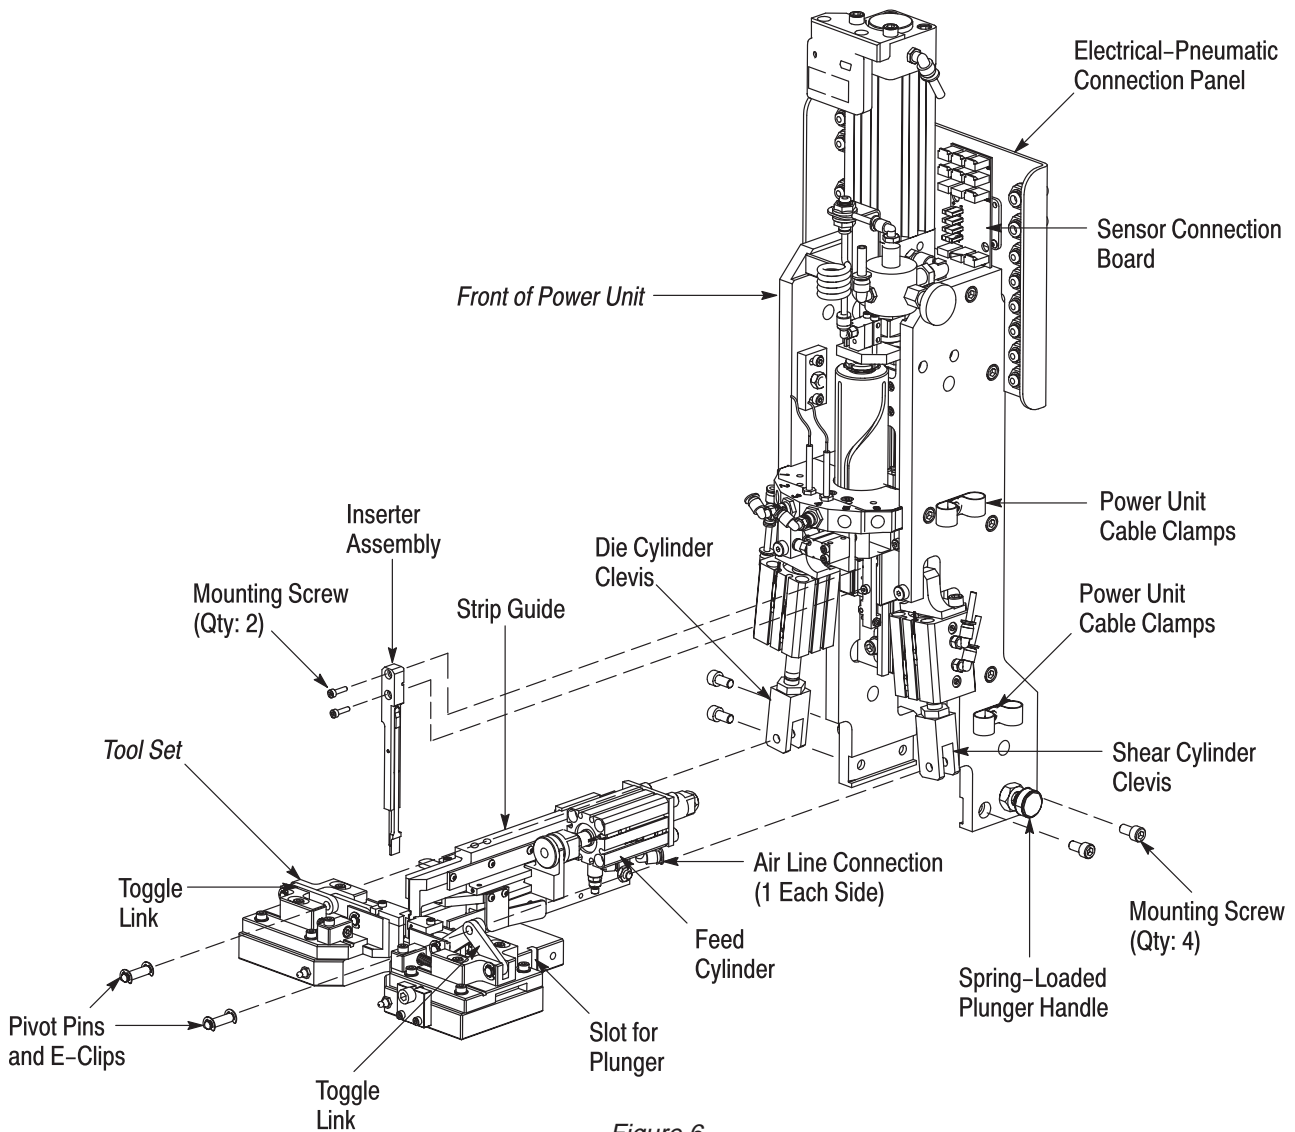

Figure 6
**3.2. Installing Tool Set onto Power Unit** (See Figure 6)
3. Remove the two e-clips and two pivot pins from the center of the toggle links shown in Figure 6. DO NOT remove the other pivot pins.
Remove the tool set from the power unit in the opposite way that it was installed. Refer to Figure 6, and proceed as follows: